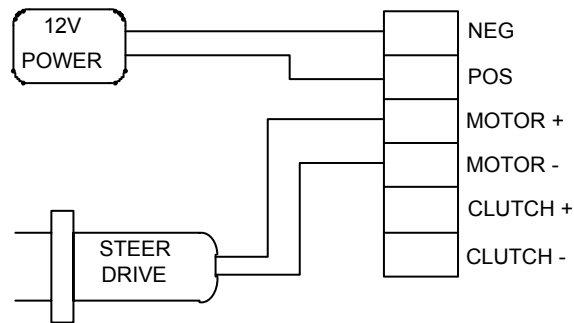

Figure 3.2 Power and Steer drive connections to the Junction Box.
6. Using 20-amp cable, connect the two pump wires to the Motor terminals in the Junction Box (see Fig 3.2), noting that no connection is made to the clutch drive in this type of installation. The polarity of the connection can be